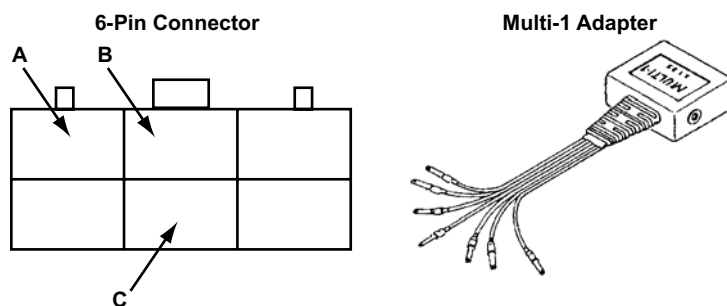

Figure 6-1 Engine connector and MULTI-1 adapter (AUTO CODE READ)
- Connect the MULTI-1 adapter with black terminal converters to the 6-pin connector as shown in Figure 6-1.